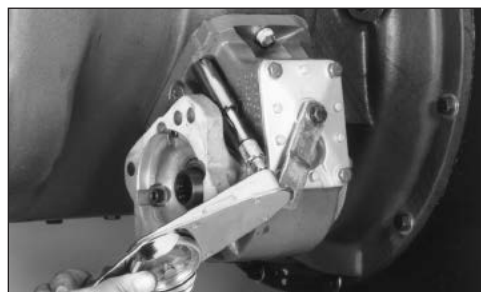

Figure 12
8. Torque fasteners to their proper specifications (**Fig. 12**).